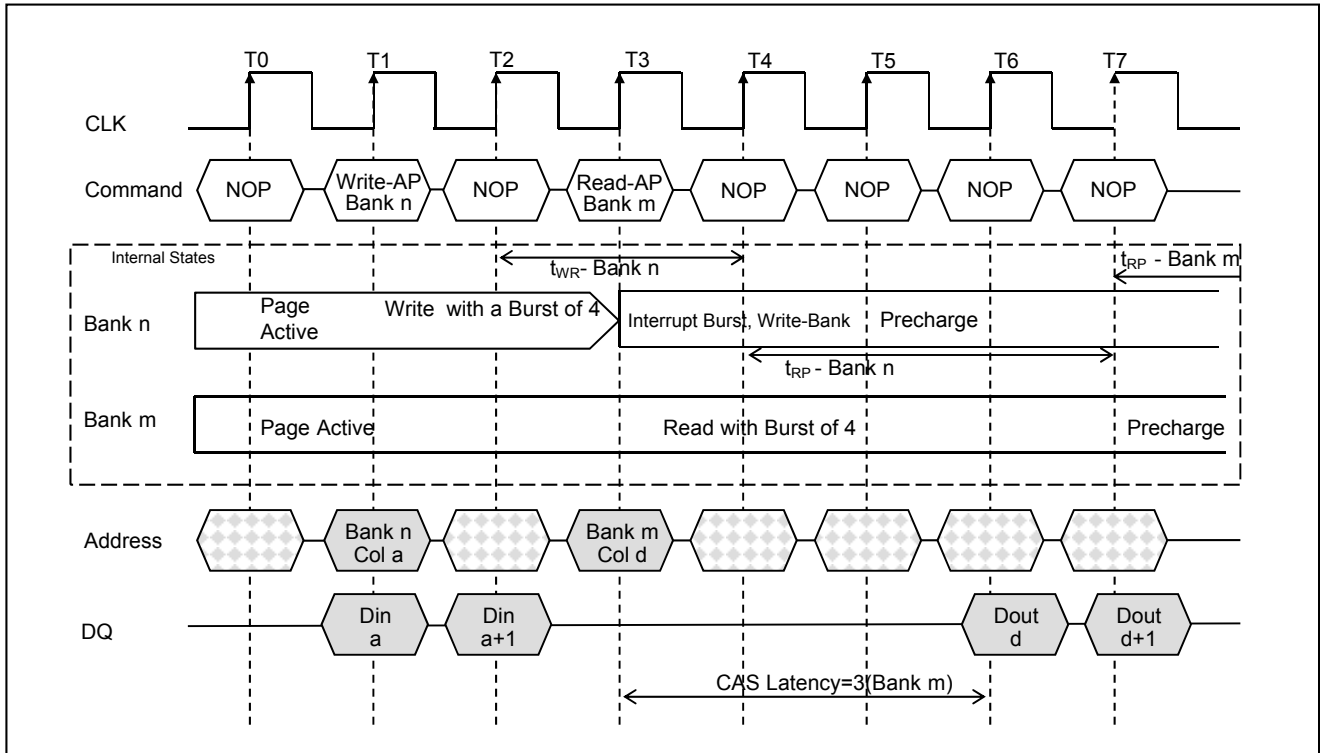

Figure 27. Write with Auto Precharge Interrupted by a Read(CAS Latency =3)
3. Interrupted by a Read(with or without auto precharge): A Read to bank m will interrupt a Write on bank n when registered , with the data-out appearing CAS latency later. The Precharge to bank n will begin after t_{WR} is met, where t_{WR} begins when the Read to bank m is registered. The last valid Write to bank n will be data-in registered one clock prior to the Read to bank m.(Figure 27.)